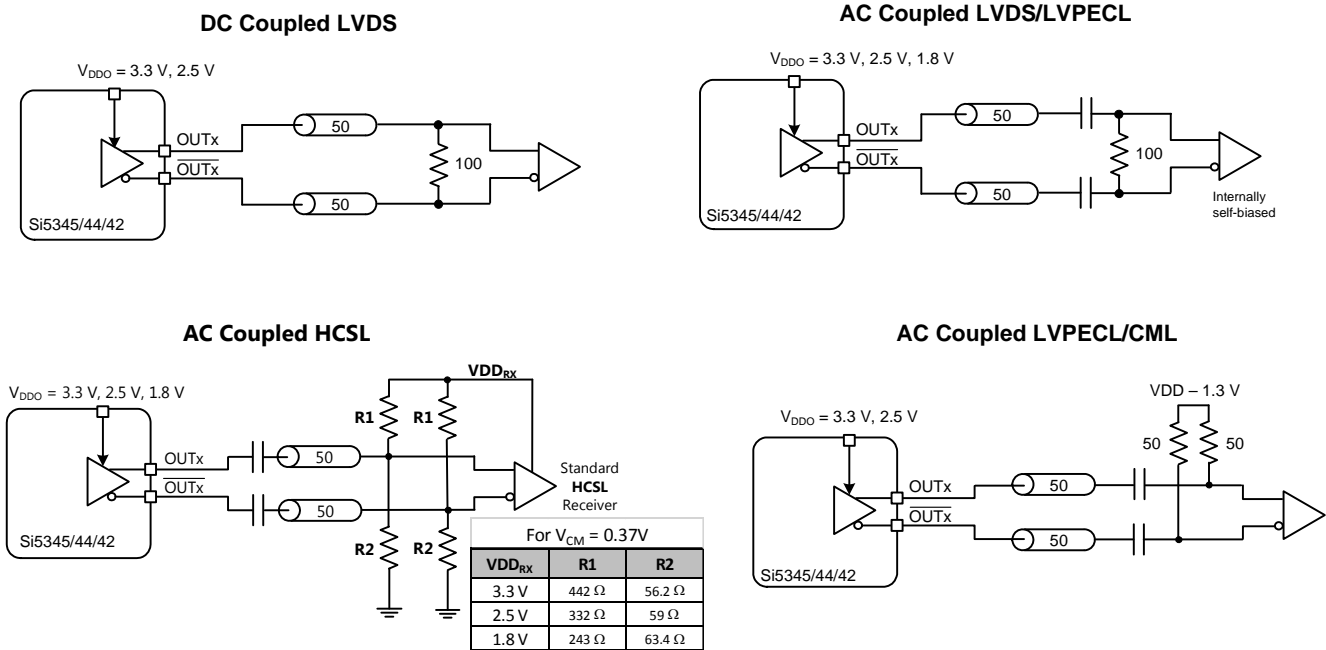

Figure 17. Supported Differential Output Terminations
The differential output drivers support both ac and dc-coupled terminations as shown in Figure 17.
- Differential Normal Swing Mode**—This is the usual selection for differential outputs and should be used, unless there is a specific reason to do otherwise. When an output driver is configured in normal swing mode, its output swing is selectable as one of 7 settings ranging from 200 mVppse to 800 mVppse in increments of 100 mV. Table 18 lists the registers that control the output voltage swing. The output impedance in the Normal Swing Mode is 100  $\Omega$  differential. Any of the terminations shown in Figure 17 are supported in this mode.
- Differential High Swing Mode**—When an output driver is configured in high swing mode, its output swing is configurable as one of 7 settings ranging from 400 mVppse to 1600 mVppse in increments of 200 mV. The output driver is in high impedance mode and supports standard 50  $\Omega$  PCB traces. Any of the terminations shown in Figure 17 are supported. The use of High Swing mode will result in larger pk-pk output swings that draw less power. The trade off will be slower rise and fall times.